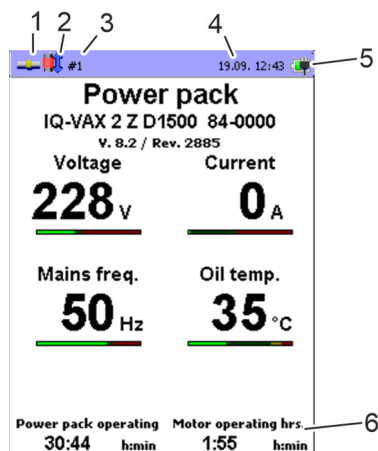

Fig. 35: Display elements
- ⇒ A proper connection between the hydraulic power pack and control unit (BE) is indicated in the connection status (Fig. 35/1) by .
- ⇒ If the data connection has been established between the control unit (BE) and the hydraulic power pack, the 'Power Pack Data View' menu is displayed.
5. If there is a faulty connection between the control unit (BE) and the hydraulic power pack (connection status ) , ensure that the adapter cable has been connected correctly.
12.6 Preloading with the control unit (BE)